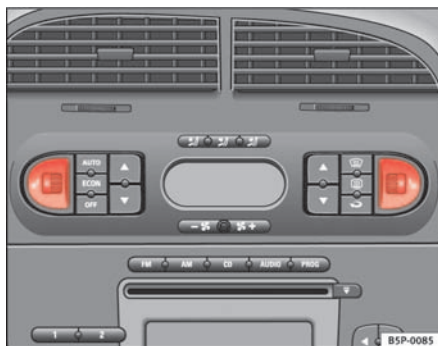

Fig. 94 Thumb wheel for the front seat heating
- Turn the appropriate thumb wheel ⇒ fig. 94 to switch on the seat heating. The seat heating is switched off in the 0 position.